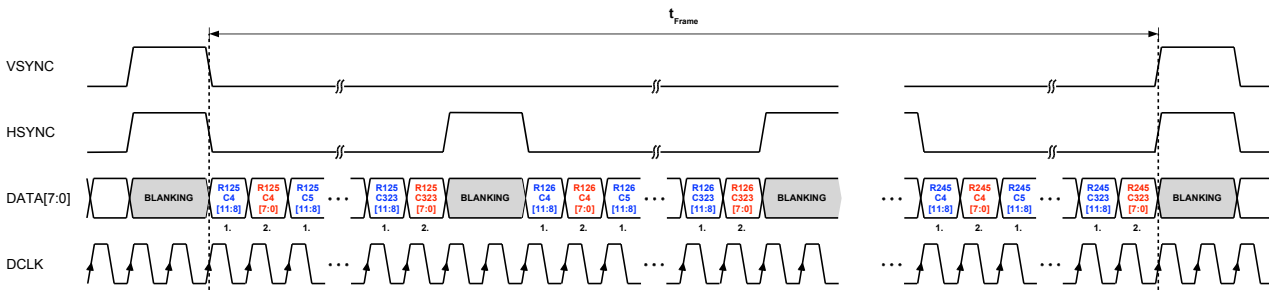

Figure 30: **msb/lsb** split mode
- msb/lb split mode: Transfers 12 bit pixel data with MSByte leading and LSByte trailing with 2x DCLK. Refer to Table 14 and Figure 30.